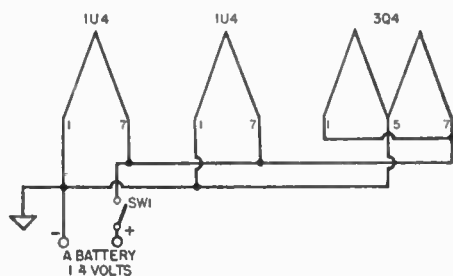

Fig. 8-16. Filament circuit.
a) *Filament Circuit.* See Figure 8-16.